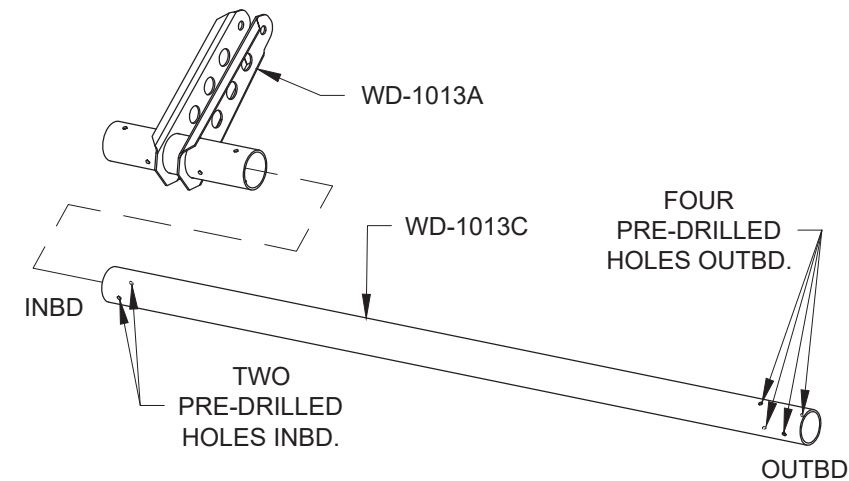

FIGURE 1:
Step 1: Study Figure 1 carefully.